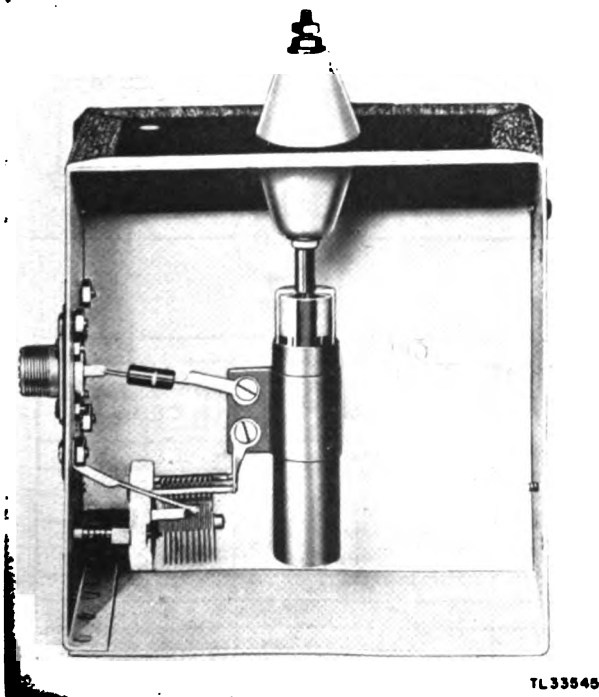

Figure 182. Capacity voltage divider, cover removed.
(5) *Capacity voltage divider.* This divider should have a division ration of about 20/1 and should be capable of withstanding a peak voltage of 5,000 volts or more. The output capacity should be as low as possible (see figs. 182 and 183).